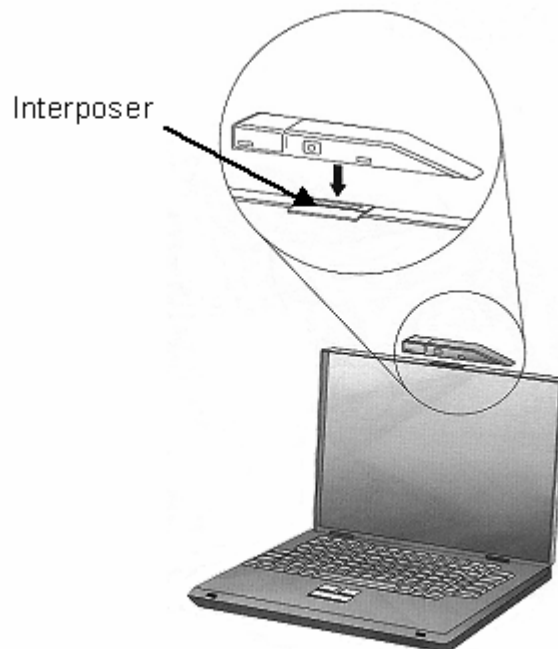

Figure 12-8.- Ultraport Camera position.
- 2.3 Open small cover above Interposer (refer to figure 12-8)
Refer to figures 12-8 and 12-9